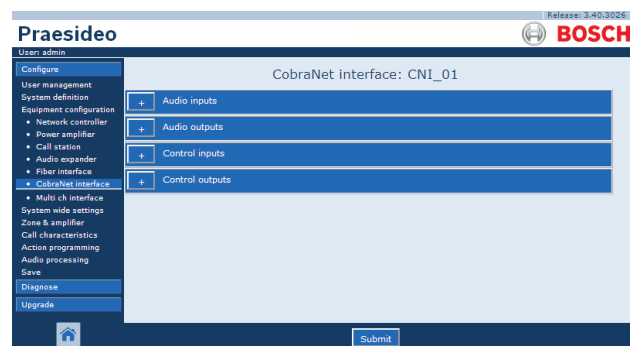

figure 43.34: Configure CobraNet interface step 2
- 2 Click the name of the CobraNet interface that must be configured. A screen similar to the one in figure 43.34 appears in the main frame of the web interface.